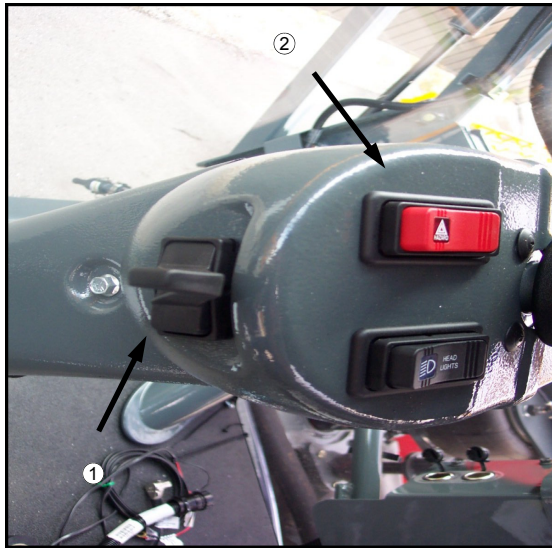
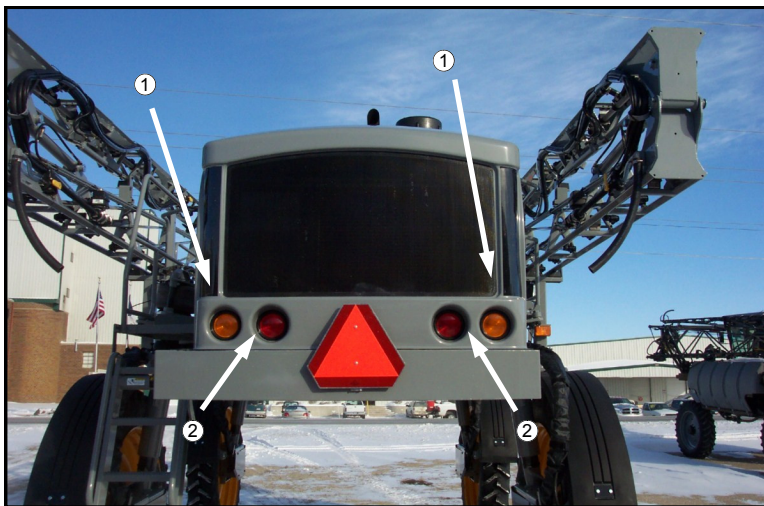

FIG 4.65
FIG 4.67
To activate the front (fig. 4.66) and rear turning signals (fig. 4.67, item 2), move the turn signal lever (fig. 4.65, item 1) forward to turn right and back to turn left. Steering column-mounted turn signal indicators will correspondingly flash when either side of the turn signals is activated. The turn signal lever is not a self-centering switch; you must return it to the "OFF" position by hand after completing your turn.
To activate the flashing hazard/warning lights (fig. 4.66 & 4.67, item 1), depress the "FLASHER" switch (fig. 4.65, item 2). Activate the hazard/warning lights anytime traveling on a public road, day or night, unless prohibited by law.
Activating the highway (see page 46) will also turn on the "RED" running lights on the rear of the machine (fig. 4.67, item 2).